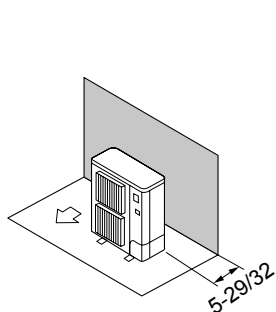

Fig. 2-6
- ① Obstacles at rear only (Fig. 2-6)